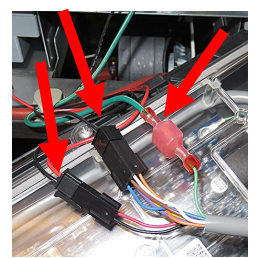

Figure 16
8. Disconnect the ground cable, the locator cable, the speaker cable and the USB cable from the far-left controller (if applicable) (see Figure 16). Tuck the single wire locator cable out of the way, as it is NOT used with the new controller.